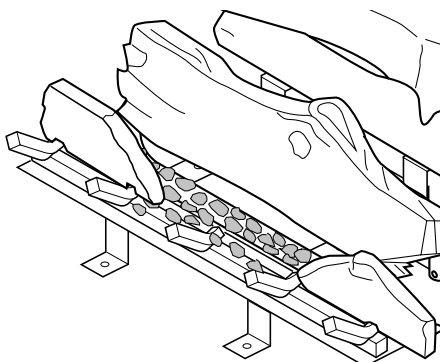

Figure 54 - Placing Ember Material on Burner
- Pull ember material apart into pieces no larger than a dime. Place these pieces loosely and sparingly directly onto the exposed section of the front burner and along the space between the burner and grate prongs (see Figure 54). This will create the glowing ember appearance as the flame touches the ember material. Do not block air slots by using too much ember material in one area. It is not necessary to use all of the ember material provided.